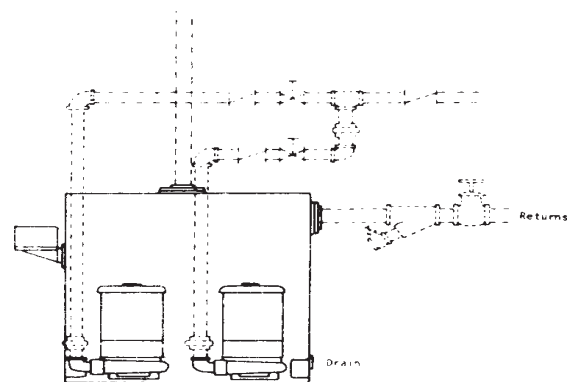

FIGURE 2a
- Figure 2a shows a suggested piping arrangement for a duplex Condensate Unit.